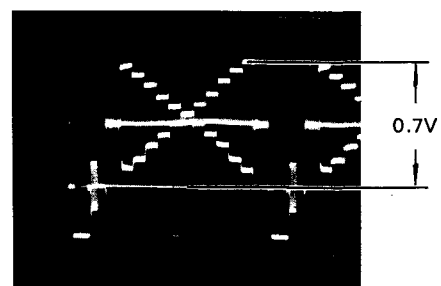

Fig. 5-8-1
- o Observe waveform monitor or connect the oscilloscope to the terminated VIDEO OUT signal and trigger the oscilloscope at H rate. (Use TP9 (BL), Deflection board.)
- o Adjust VR2 (IRIS PRESET) so that the video output level is 0.7V. (Fig. 5-8-1)